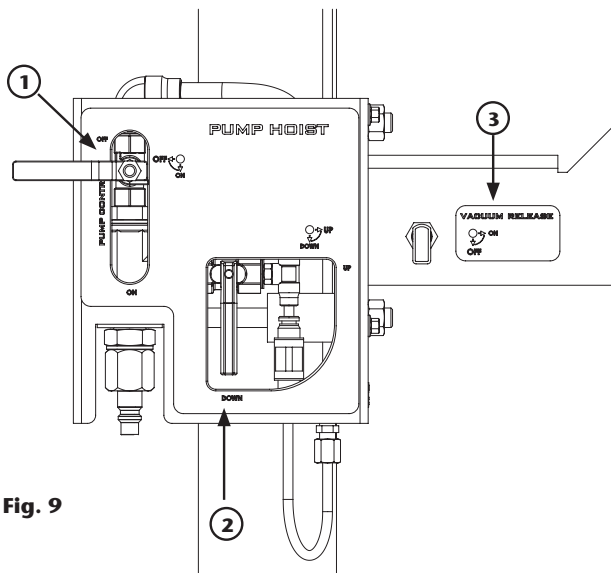

Fig. 9
1. Check that the control cabinet lever is in the "UP" position (2) (fig. 9).
4. Move the control cabinet lever to the "DOWN" position (2) (fig. 9).
1. Start the pump by placing the "Pump Control" valve in the "ON" position (1) (fig. 9).
4. Move the control cabinet lever to the "UP" position (2) (fig. 9). In this position the cylinder go up in the unit. Only with follower plate model, open the vacuum released valve, a current of air enters the drum to push the inductor plate (3) (fig. 9).
6. Only for follower plate model close the vacuum released valve. (3) (fig. 9).